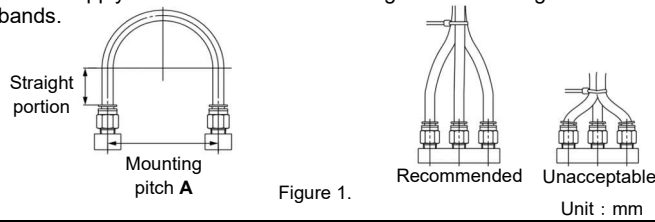

Figure 1.
- When connecting tubes using one-touch fittings, provide some spare tube length as shown in Fig 1.